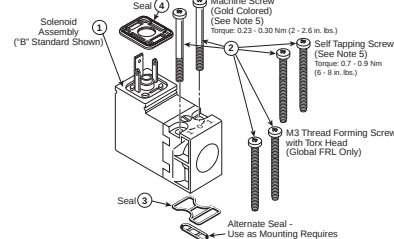

Figure 1
1. After electrically de-energizing unit and relieving air pressure, remove the electrical connector. Remove snap-on type connector by squeezing the latches on the sides to disengage the latch tangs, then pull it off the solenoid (Item 1). If the snap-on connector is also held in place with a holding screw, this screw must be removed before the connector can be removed (see Figure 1). A cable plug requires unscrewing its holding screw from the center of the plug, then pulling it off of the solenoid (see Figure 2).
3. Remove the two screws or nut (Item 2) which secure the solenoid assembly to the solenoid adapter or operator, and remove the solenoid assembly (see Figure 1 & 3).